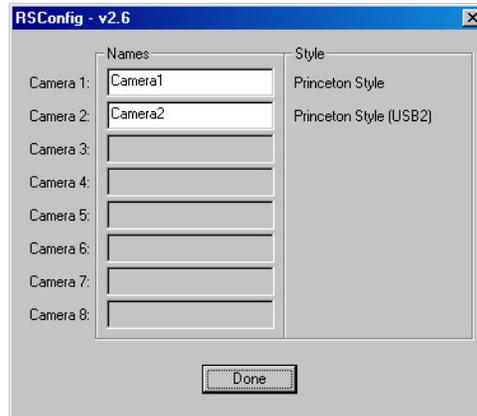

Figure 57. RSConfig dialog box: Two Camera Styles
4. Run RSConfig.exe (accessible from the **Windows|Start|Programs|Roper Scientific** menu). If the USB 2.0 camera is listed as Camera 2 (Princeton Style (USB2) in Figure 57), you will have to edit the PVCAM.INI file.